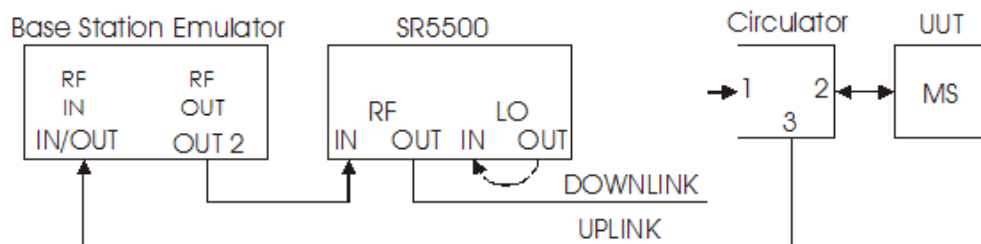

Figure 1-12: Mobile Test Setup
A Base Station Emulator, circulator, and a DUT (GSM Mobile) are used for this procedure. Figure 1-12 shows the setup for the Mobile Test.
5. After completing the interconnections outlined in Figure 1-12, power-on all instruments in the test setup.